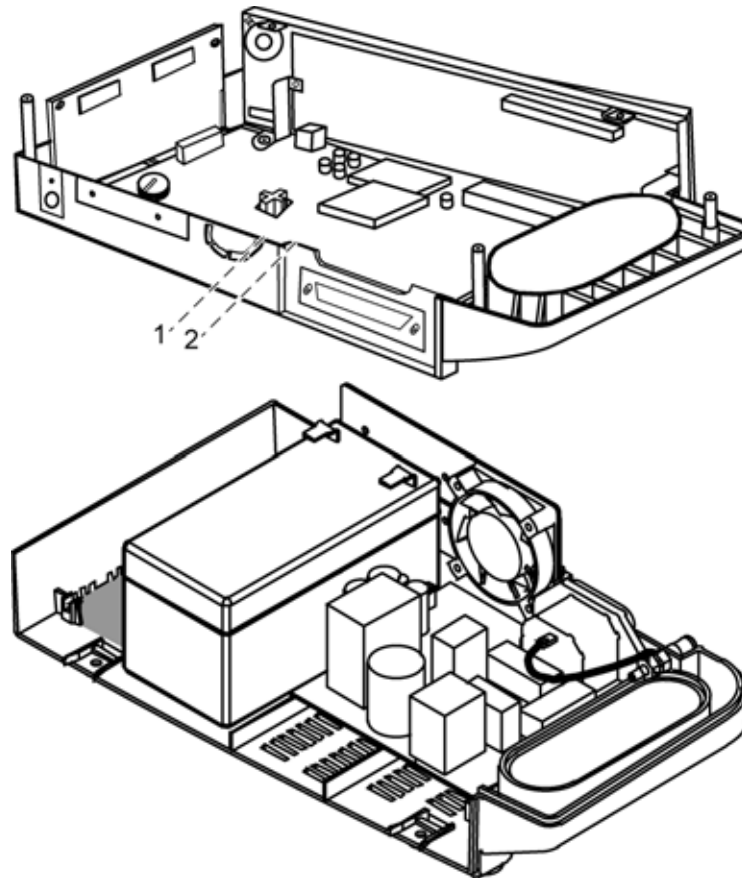

Figure 16: Separated Cases
6. Carefully disconnect the two cables from the main PCB. See Figure 16 items 1 and 2.